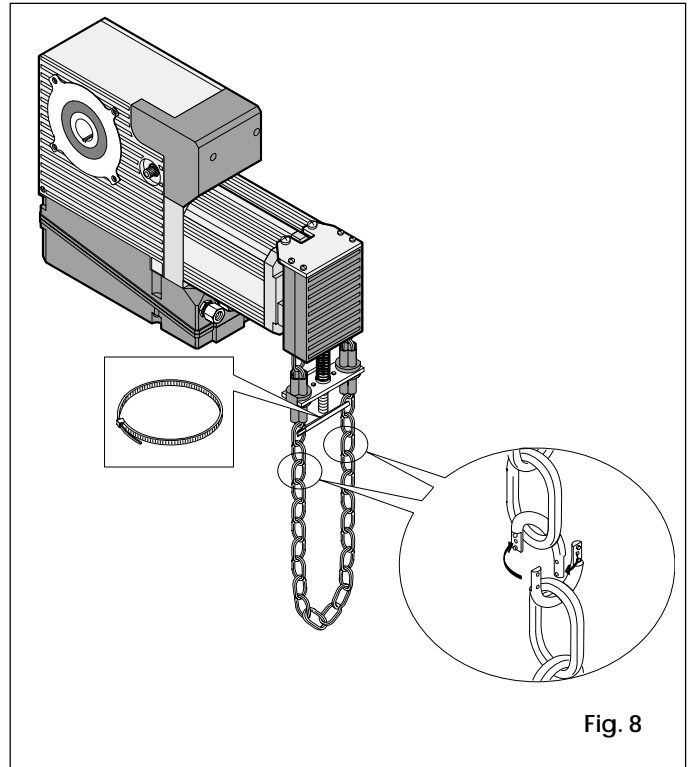

Fig. 8
Fully unwind the supplied chain and unite one of its ends to the one already inserted in the winch, using one of the supplied chain links (see figure 8.).
If using the chain extension kit, replace the balancing spring (fig.10 ref.3) with the one in the kit. Furthermore, we advise you to glue together the chain links during assembly (see fig.8).